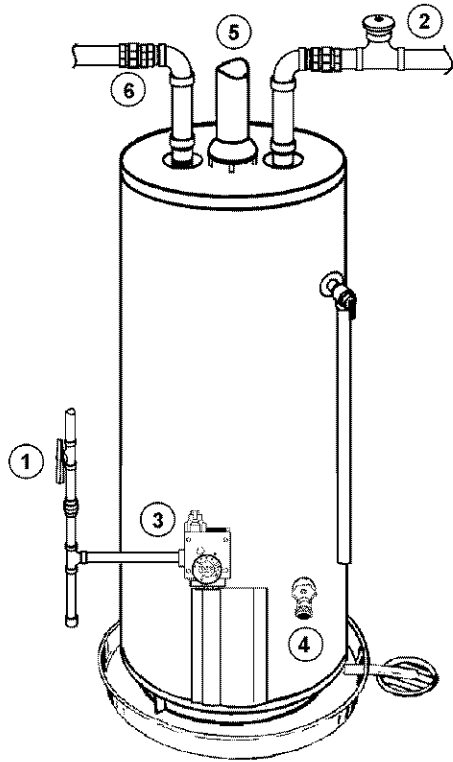

FIGURE 2.
If the main gas line shutoff valve serving all gas appliances is used, also shut "OFF" the gas at each appliance. Leave all gas appliances shut "OFF" until the water heater installation is completed, see Figures 2 and 3.
- ② Turn "OFF" the water supply to the water heater at the water shut-off valve or water meter. Some installations require that the water be turned off to the entire house, see Figures 2 and 4.
- ③ Check again to make sure the gas supply is "OFF" to the water heater. Then disconnect the gas supply connection from the gas control valve.
- ④ Attach a hose to the water heater drain valve and put the other end in a floor drain or outdoors. Open the water heater drain valve. Open a nearby hot water faucet which will relieve pressure in the water heater and speed draining. The water passing out of the drain valve may be extremely hot. To avoid being scalded, make sure all connections are tight and that the water flow is directed away from any person, see Figures 2 and 5.